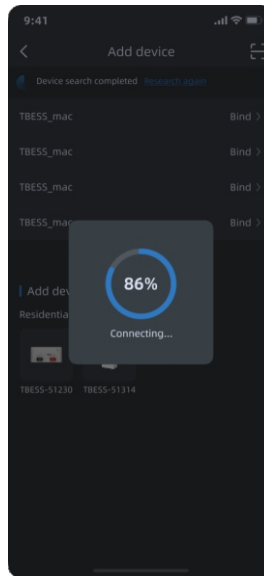

Figure 3
3) Figure 3: Bluetooth is "Connecting" and waiting for feedback on the connection result.